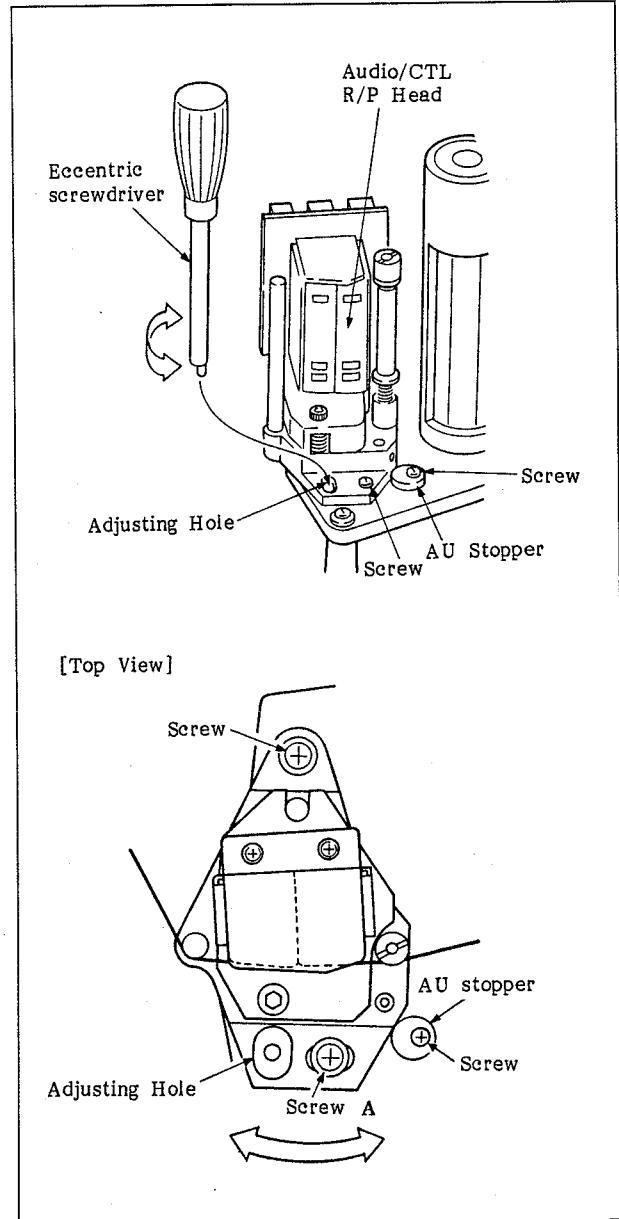

Fig. 9-16 CTL Head Position Adjustment
3. Press the [TEST], the [F2] (RF) and the [F1] (CONTINUE) keys on the control panel in sequence.
7. Loosen the screw A, shown in the top view of Fig.9-16, which is one of the two screws that hold the stationary head assembly, and the set screw of the AU stopper.
2. Loosen the screws which secure the AU stopper and stationary head assembly. Adjust the position of screw 'A' shown in the top view of Fig. 9-16 by inserting an eccentric screwdriver into the adjusting slot and turning the screwdriver so that screw 'A' comes to the center of the slot.
7. Press the [TEST], the [F2] (RF) and the [F1] (CONTINUE) keys on the control panel in sequence.
11. Press the [TEST], the [F3] (CHECKER), the [F1] (CONTINUE), the [F7] (\$), the [F1] (A), the [8], the [F4] (D), the [0] and the [SET] keys on the control panel in that order.